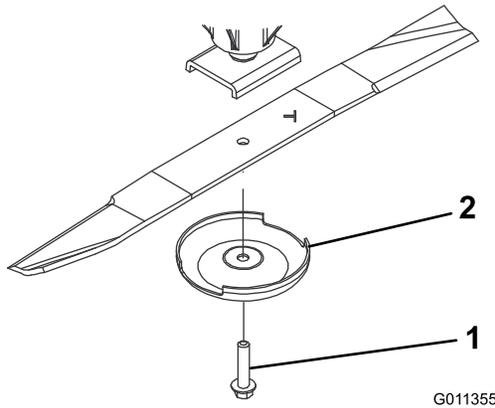

Figure 61
2. Grasp the end of the blade using a rag or thickly padded glove. Remove the blade bolt, anti-scalp cup, and blade from the spindle shaft (Figure 61).
3. Install the blade, sail facing toward the cutting deck, with the anti-scalp cup and blade bolt (Figure 61). Torque the blade bolt to 115 to 149 N-m (85 to 110 ft-lb).